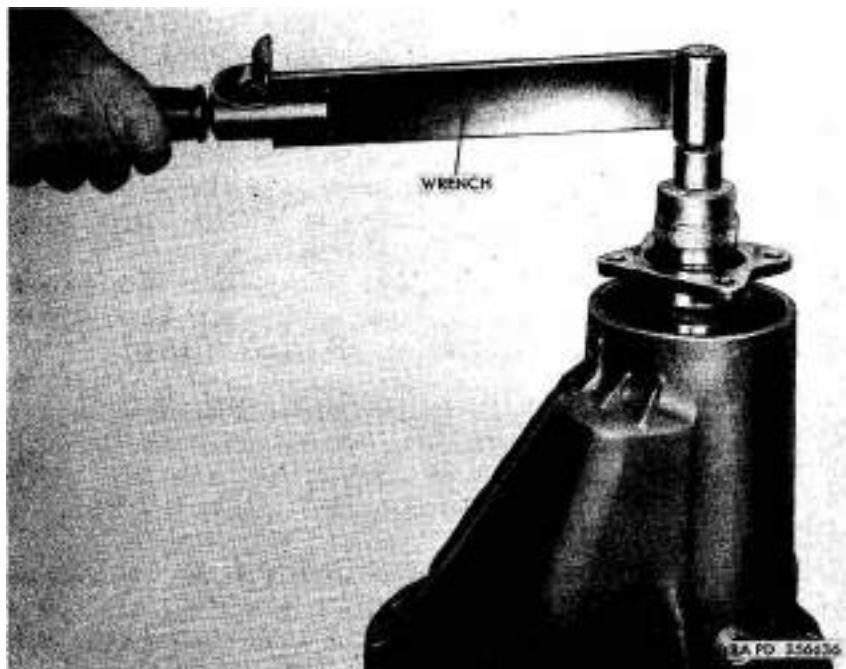

Figure 85. Checking drive pinion bearing preload with torque indicating wrench.
- (2) Hold companion flange and tighten nut with a torque indicating wrench to 300 pound-feet torque.
- (3) Rotate drive pinion several revolutions until the bearings roll smoothly and check the preload of the bearings (drive pinion in motion) with a torque indicating wrench (*fig. 85*).